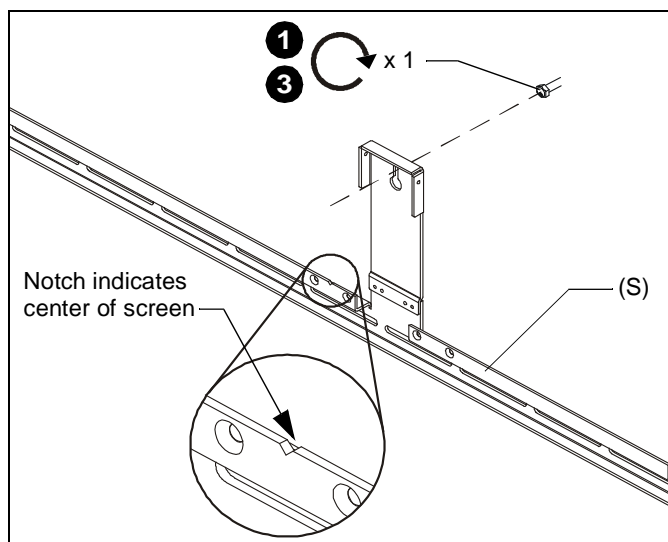

Figure 2
1. Install one fastener (See Table 1) into previously drilled hole, leaving 1/2" of fastener extending from wall. (See Figure 2)
2. Hang wall bracket (S) onto fastener.
**NOTE:** Notch in wall bracket (S) indicates center of screen. (See Figure 2)